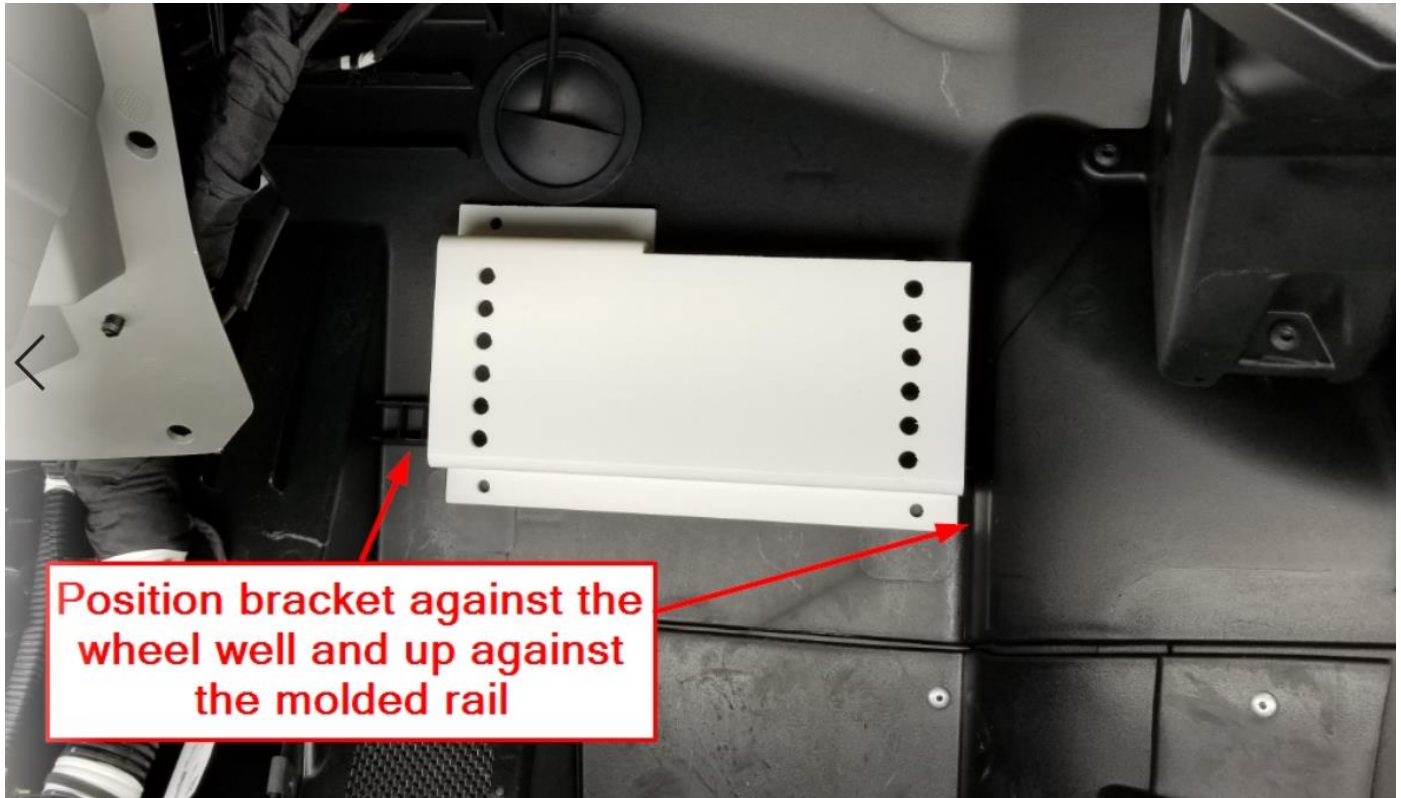

Figure 7
- g. Position the Main Heater Bracket against the firewall as shown in Figure 7, mark the three hole centers and drill using a 1/4" Drill Bit.
- a. Mount the Main Heater Bracket shown in Figure 7 to the Firewall using the included 1/4" x 3/4" Serrated Flange Bolts and 1/4" Serrated Flange Nuts.